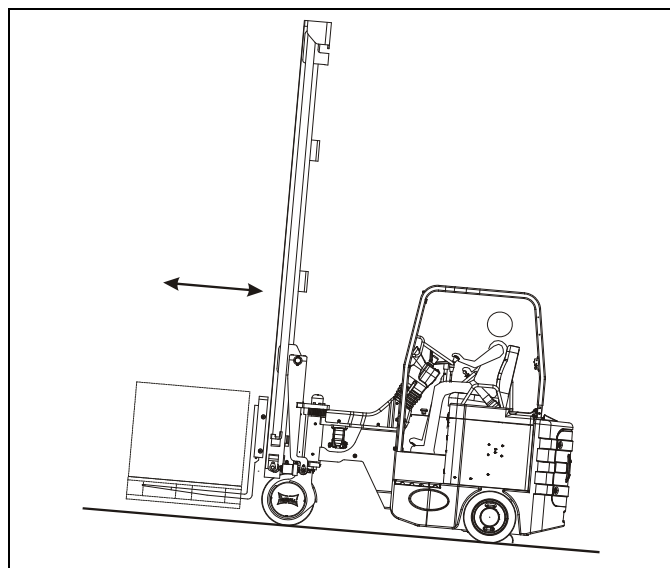

Figure 4-17: Traveling Uphill
- ***Always keep the load pointed uphill.*** See Figure 4-17. Travel with the forks facing uphill whether you are going up or down an incline. You must then back down an incline when you are carrying a load. If vision is obscured, arrange for a 'Banksman' to guide you.